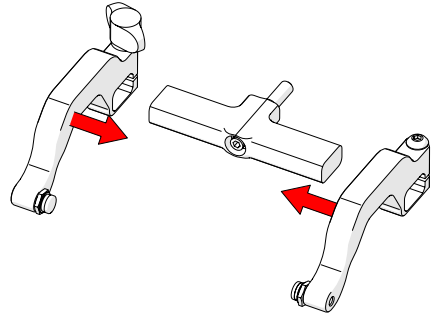

Fig. 101 - Place arms back onto yoke
6. Place the probe holder arms on the yoke and tighten the arm clamp screw and probe holder adjustment knob (Fig. 101).